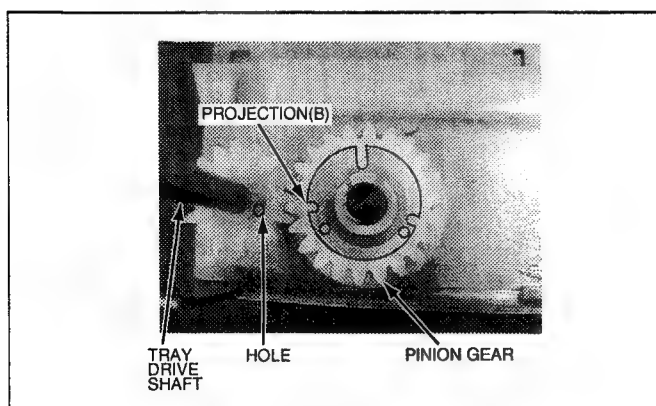

Fig. T-7
- Fig. T-7 Install the Pinion Gear so that the projection (B) on the pinion Gear is aligned to the hole on the Tray Drive Shaft Gear.